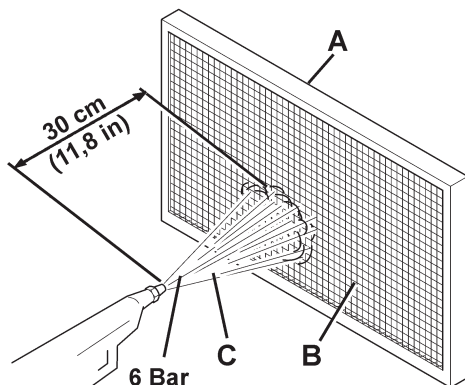

Figure 14
18. In an outdoor area, clean the filter by shaking it on a level and clean surface, tapping the side (A, Fig. 14) opposite to the wire gauze (B).
- Install the filter with the wire gauze (B, Fig. 14) facing upwards.